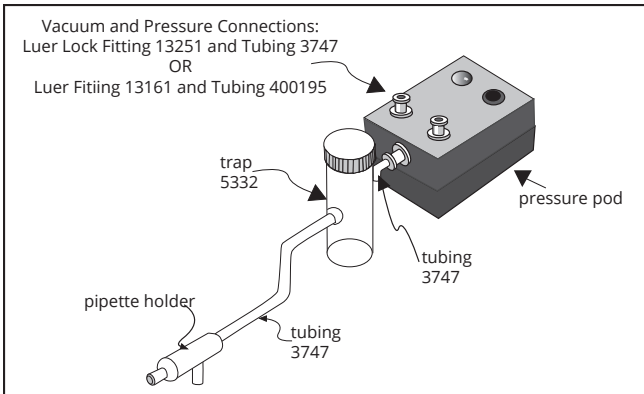

Fig. 19—The pipette assembly is attached to pressure pod.
2. Cut 12" tube into two sections – a short section and a long section. (See to Fig. 19).
3. Install the liquid **Trap** as shown in Fig. 19.